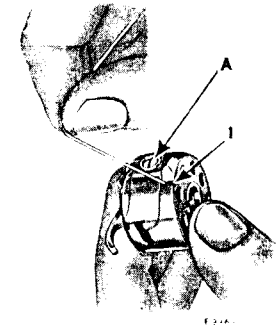
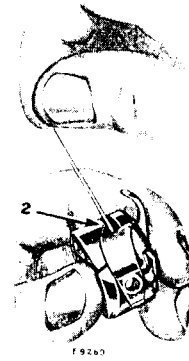

Fig. 11
Fig. 12
Then pull the thread into the slot (1, Fig. 11) in the edge of the bobbin case, draw the thread under the tension spring and into the delivery eye (2) at the end of the tension spring, as shown in Fig. 12.
The tension on the bobbin thread is regulated by the screw (A, Fig. 11) in the bobbin case tension spring. To increase the tension, turn this screw over to the right. To decrease the tension, turn the screw over to the left. The tension on the bobbin thread should be light.